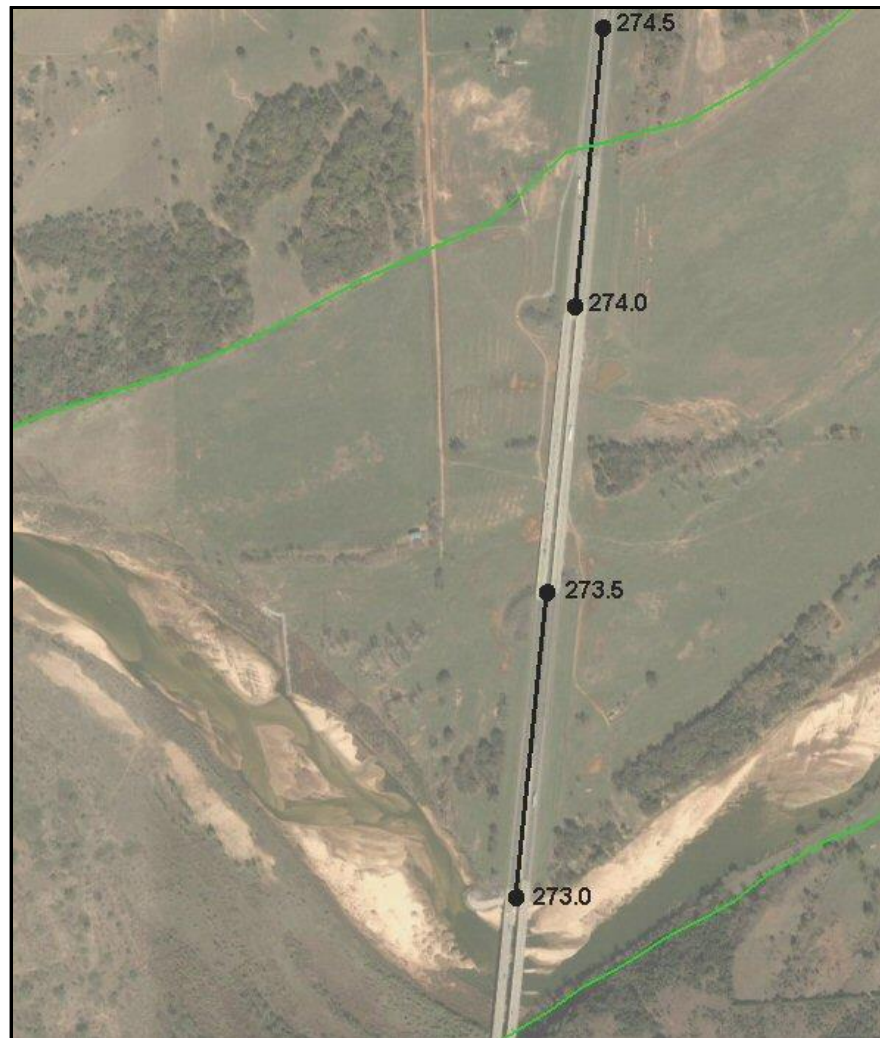

Figure 4 Roadway embankment arc and elevations
5. Using the **Create Feature Arc**  tool, click out two arcs for the road embankments as shown in Figure 4.
6. Select the **Select Feature Point**  tool. Change the elevation of each node to the appropriate value as shown in Figure 4 by selecting them and editing the Z options window on top of the screen.